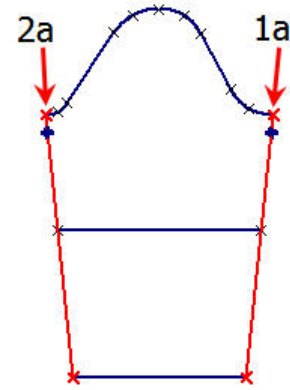
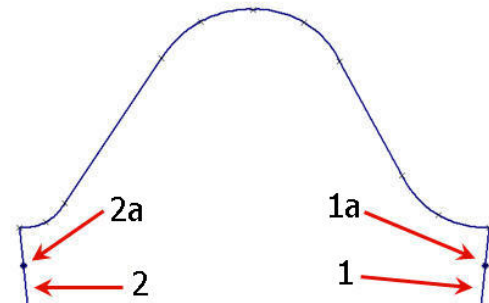

Figure 7. Locate points
Figure 8. Break front and back underarm lines
1. Choose File/Open (FO) and open the Tapered_Sleeve_Sloper from the Patterns/Sleeves folder.
3. Select the front underarm line and choose Locate Points (LP) (Fig. 7).
4. SNAP to point 1a, enter 1 (2.5 cm) for the single point distance and press Apply (Fig. 7).
5. Select the back underarm line and choose Locate Points (LP) (Fig. 7).
6. SNAP to point 2a, enter 1 (2.5 cm) for the single point distance and press Apply (Fig. 7).
7. Choose Zoom Window (ZW) and drag a zoom window around the sleeve area.
8. Choose Scissors (BR) and CLICK on line 1, the front underarm line (Fig. 8).
9. SNAP twice to point 1a to break the line (Fig. 8).
10. Choose Scissors (BR) and CLICK on line 2, the back underarm line (Fig. 8).
11. SNAP twice to point 2a to break the line (Fig. 8).